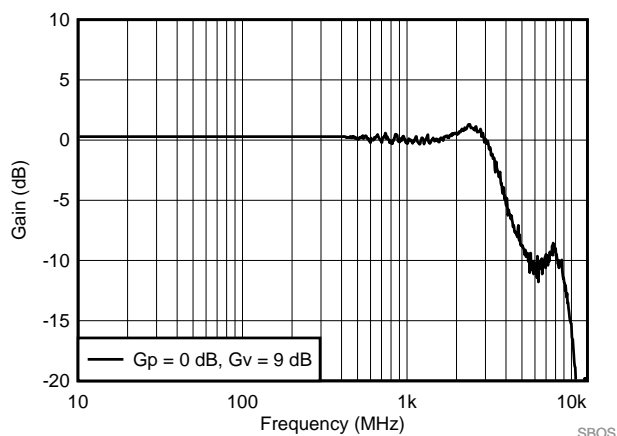

Figure 58. SE-DE Small Signal Frequency Response for Low Gain
Two types of gain are associated with amplifiers: noise gain (NG) and signal gain. Noise gain determines the stability of an amplifier. The noise gain is the inverse of the voltage divider from the outputs back to the differential inputs. This gain is calculated by $NG = (R_F / R_{IN}) + 1$. For the LMH5401-SP, $NG > 3$ creates a stable circuit independent on how the signal gain is set. In Figure 57, for optimal performance choose R_F within the values noted in this document (see the Parameter Measurement Information section for further information). Using too large of a resistance in the feedback path adds noise and can possibly have a negative affect on bandwidth, depending on the parasitic capacitance of the board; too low of a resistance can load the output, thus affecting distortion performance. When low signal gain stability is needed, the noise gain can be altered with the addition of a *dummy* resistor (that is, R_T in the differential configuration of Figure 57). By manipulating the noise gain with this addition, the amplifier can be stabilized at lower signal gains. In Figure 57, R_S and R_{comp} in parallel combination also affects the noise gain of the amplifier. R_G and R_F are the main gain-setting resistors and the addition of R_{comp} adjusts the noise gain for stability. Much of this stability can be simulated using the LMH5401-SP TINA model, depending on the amplifier configuration. The example in Figure 57 uses the LMH5401-SP, a signal gain of 2.8 V/V, and a noise gain of 3.65 V/V resulting in the frequency response shown in Figure 58.